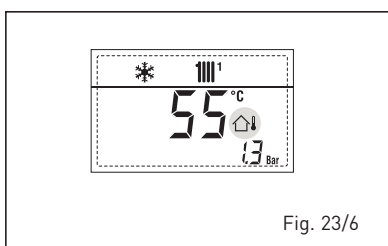

Fig. 23/6
– **“ PARPADEANT” ANOMALÍA SONDA EXTERNA (fig. 23/6)**